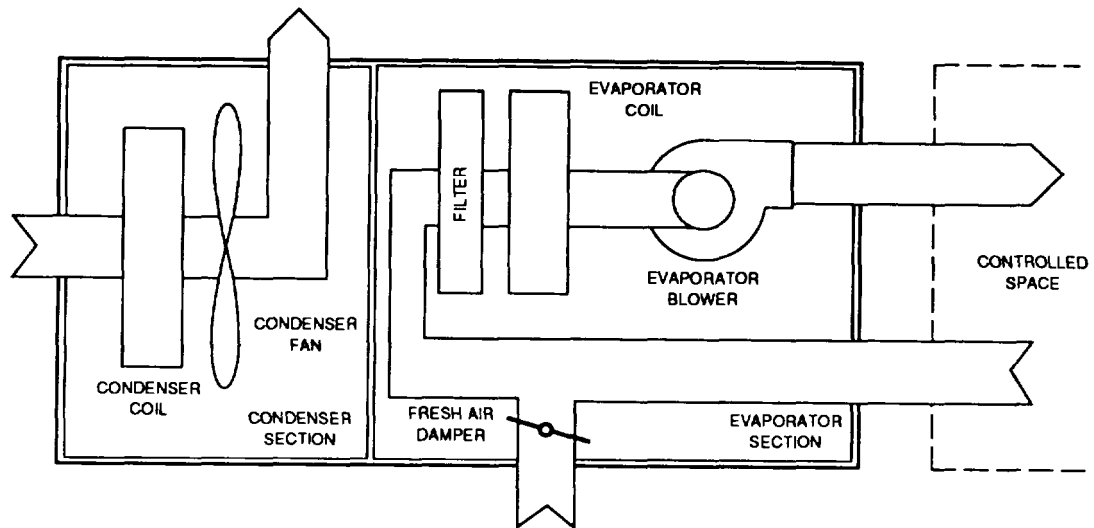

Figure 1-3. Air Conditioner Airflow System
b. **AIRFLOW SYSTEM.** As indicated in figure 1-3, the air conditioner is divided into two separate airflow compartments. Cooled airflow takes place in the front compartment; heat rejection airflow takes place in the rear compartment. A metal wall seals the front compartment from the rear, preventing air from passing between the two compartments.